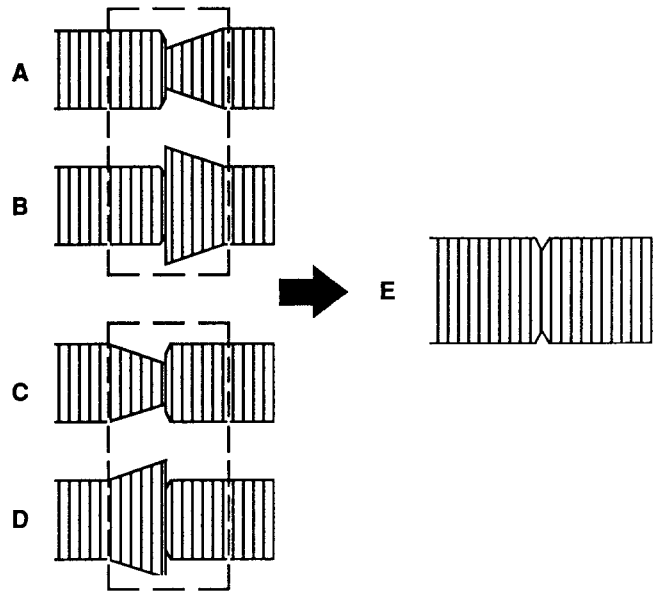

Fig. 38
- If the FM envelopes are displayed as shown in examples "A" and "B" in Fig. 38 adjust with the Run-in Tape Guide Bolt P2 so that the FM envelopes are as shown in Fig. 38 - "E".
- If the FM envelopes are displayed as shown in example "C" or "D" in Fig. 38, adjust with the Run-out Tape Guide Bolt P3 so that the FM envelopes are as shown in Fig. 38 - "E".